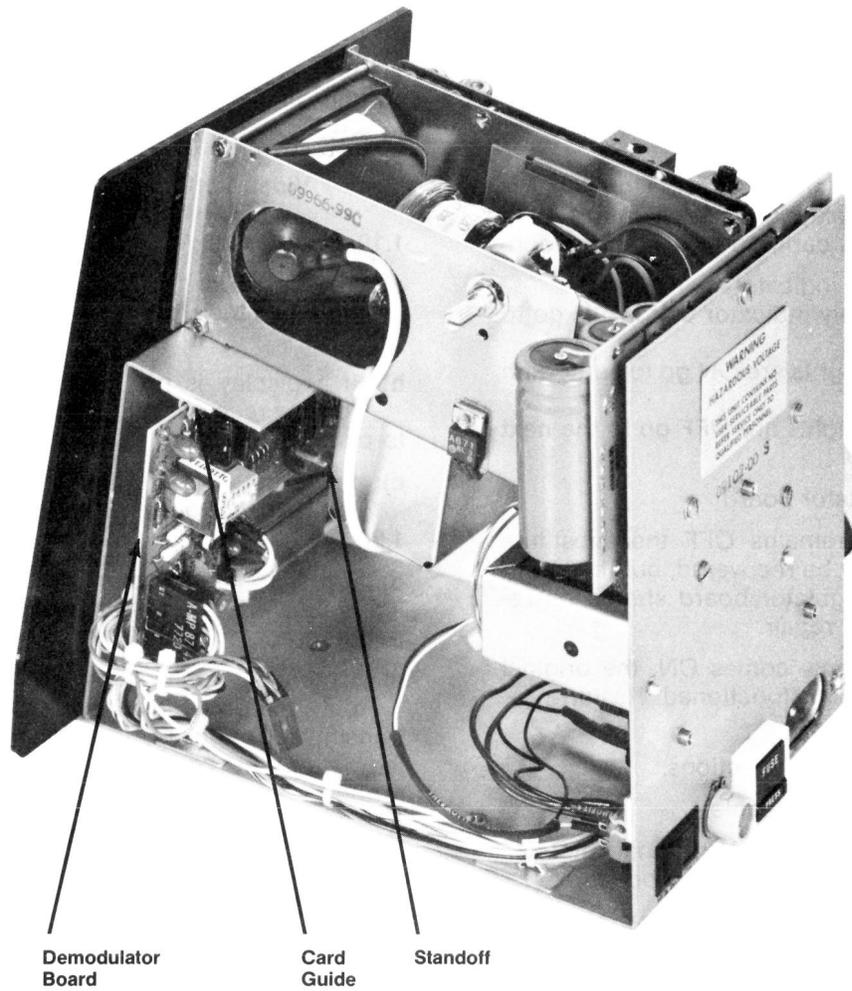

Figure 7, Chassis With Data Converter Board Removed
- f) Remove the demodulator board by pressing in the keeper on the standoff. (See Figure 7). The demodulator board may now be pulled loose from the standoff by swinging the bottom of the board rearward, away from the front panel. Pull downward gently to release the upper edge from its guide.
- b) Place the upper (straight) edge of the demodulator board in the chassis and guide with components facing rearward, and traces facing the front panel; push upward to seat in guide. (See Figure 7.)